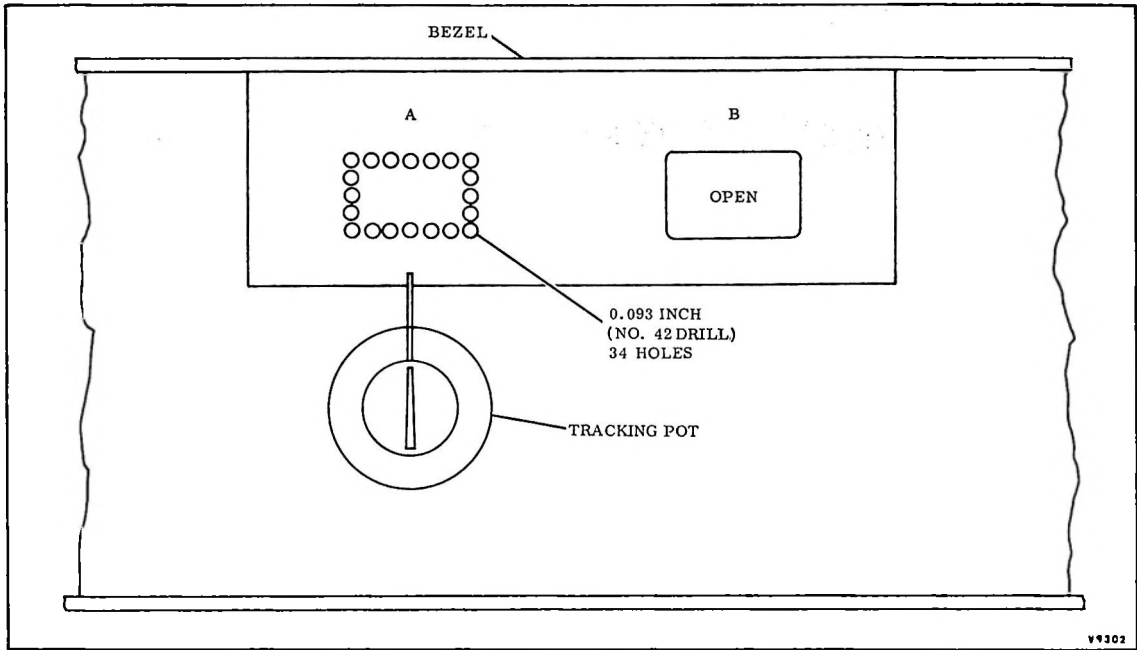

Figure 2-2. Auto Tracking Template
h. Remove protective coating from double sided tape on back side on template (part number 1368147-01) supplied with kit. Locate template (A part) as shown in Figure 2-2 and press firmly in place.
- d. Remove protective coating from double sided tape on back side of template (part number 1368147-01) supplied with kit. Locate template (A part) as shown in Figure 2-2 and press firmly in place.